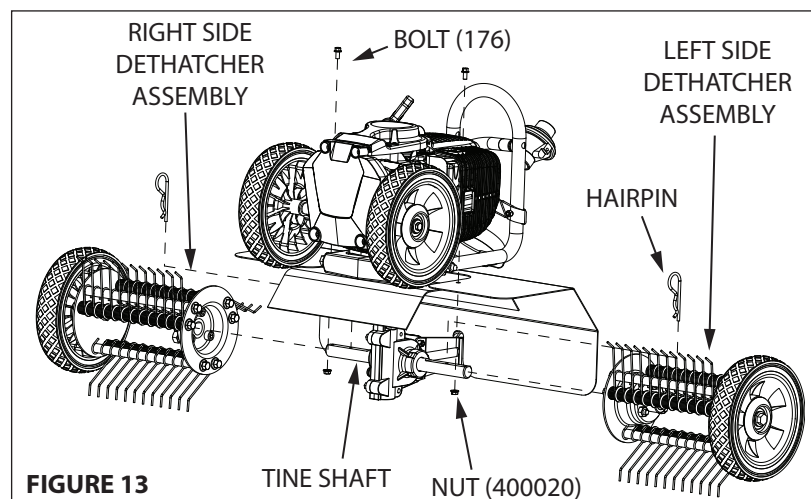

FIGURE 13
4. Slide the Left and Right Dethatcher Assemblies onto the tine shaft making sure the Right Assembly is installed on the right side and Left Assembly is installed on the left side as defined from the user's position. **SEE FIGURE 13**. Secure dethatcher assemblies using the hairpins (4652). The hairpins go through the inner holes of the tine shaft.